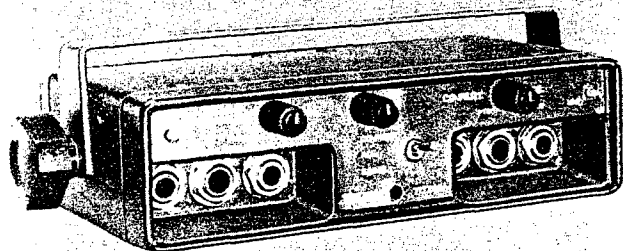

**Figure 10. Resistor Installation**
3. Bend and cut resistor leads, and then tack-solder the resistor to the circuit board at the location shown in Figure 10.